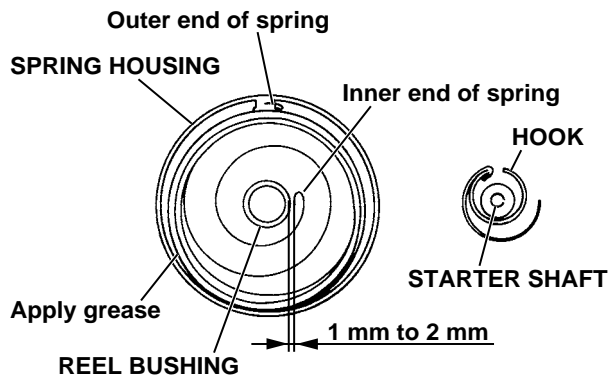

Fig. 9-5
(2) Check that the spring is securely set in the reel and form the spring end to measure 1mm to 2 mm for clearance between inner end of the spring and the reel bushing edge so that the hook catches securely as shown in Fig. 9-5.
Refer to Fig. 9-5 for which way the spring must be placed.